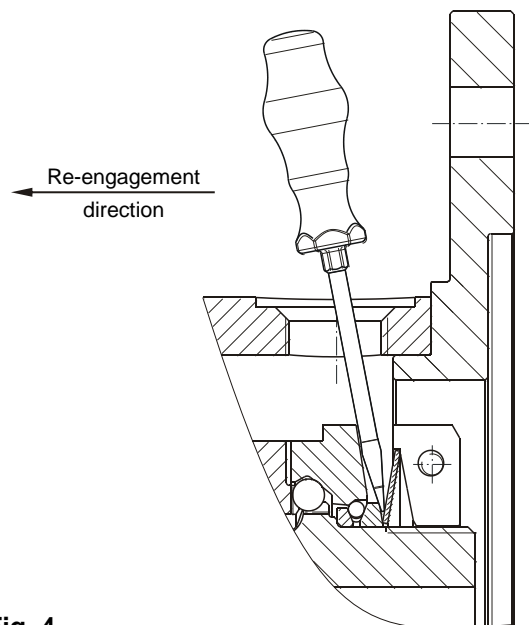

Fig. 4
Re-engagement (Fig. 4)
There are two bores (180° offset to one another) for manual clutch re-engagement. They are locked with screw plugs (14). In order to re-engage the clutch, at least one of the two screw plugs (14), including its O-ring (15), must be loosened and removed. EAS[®]-Compact[®] overload clutch re-engagement is carried out by applying axial pressure to the thrust washer (1.3) in the direction of the output (flange Y) using a suitable lever tool (Fig. 4). It may be necessary to turn slightly between the pressure flange (1.2) and the thrust washer (1.3).